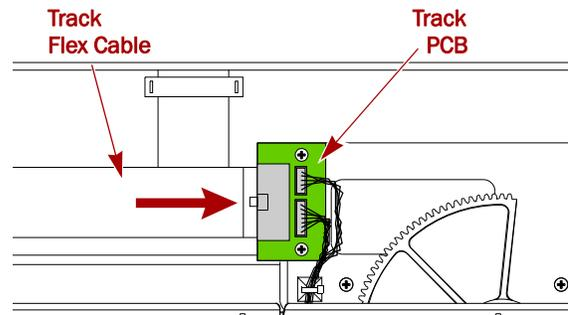

Figure 12. Cable Connections on Flex Cable Card
4. Reconnect the **track flex cable** to the track assembly PCB (Figure 12).